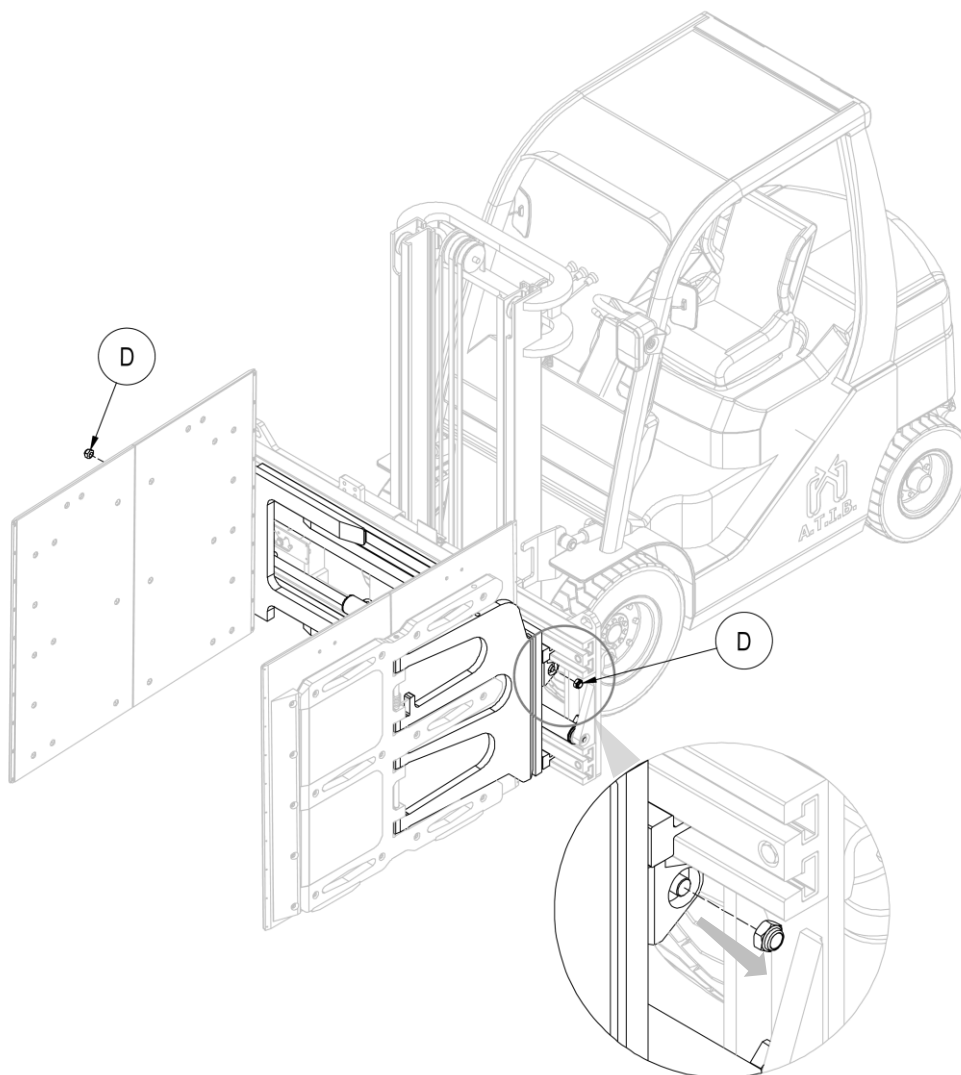

Figure 91
3. Remove the nuts **D** that secure the cylinders to the forks (see *Figure 91*).